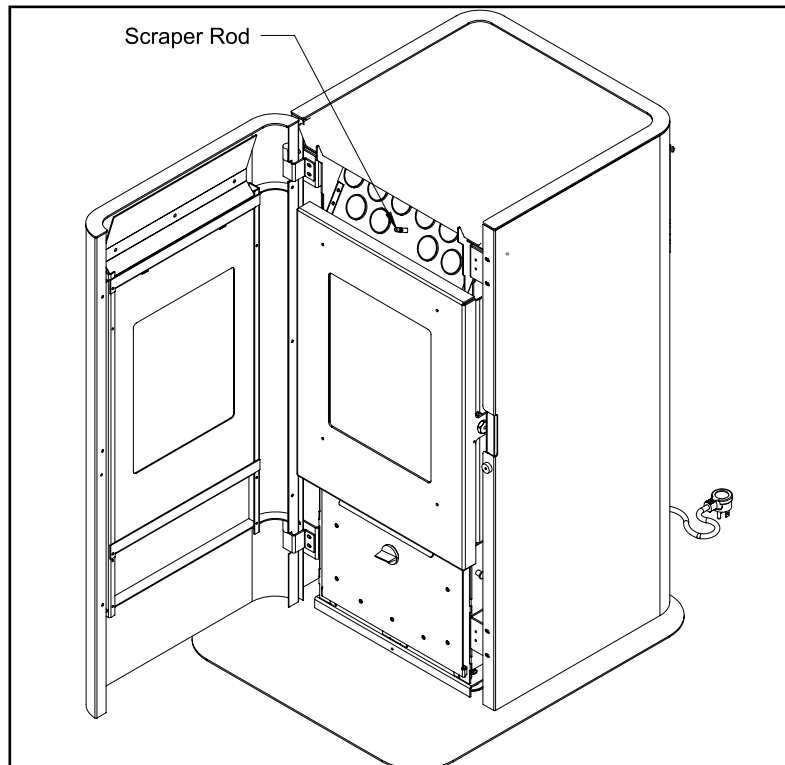

Figure 35: GF40 Heat Exchanger Tubes
A rod is located in the center of the stove just above the door behind the top louvers, see Figure 35. This rod is to be pulled up and down a few times (ONLY WHEN THE UNIT IS COLD) in order to clean away any fly ash that may have collected on the heat exchanger tubes. As different types of pellets produce different amounts of ash, cleaning of the tubes should be done on a regular basis to enable the unit to run efficiently. Do pull on rod excessively if it is not sliding. If stuck inspect rod for bend and try and free up scraper plate from inside firebox.
- Pull out the Scraper Rod shown in Figure 35 in order to remove any fly ash that may have collected on the heat exchanger tubes. This will allow for optimal heat transfer to convection air.